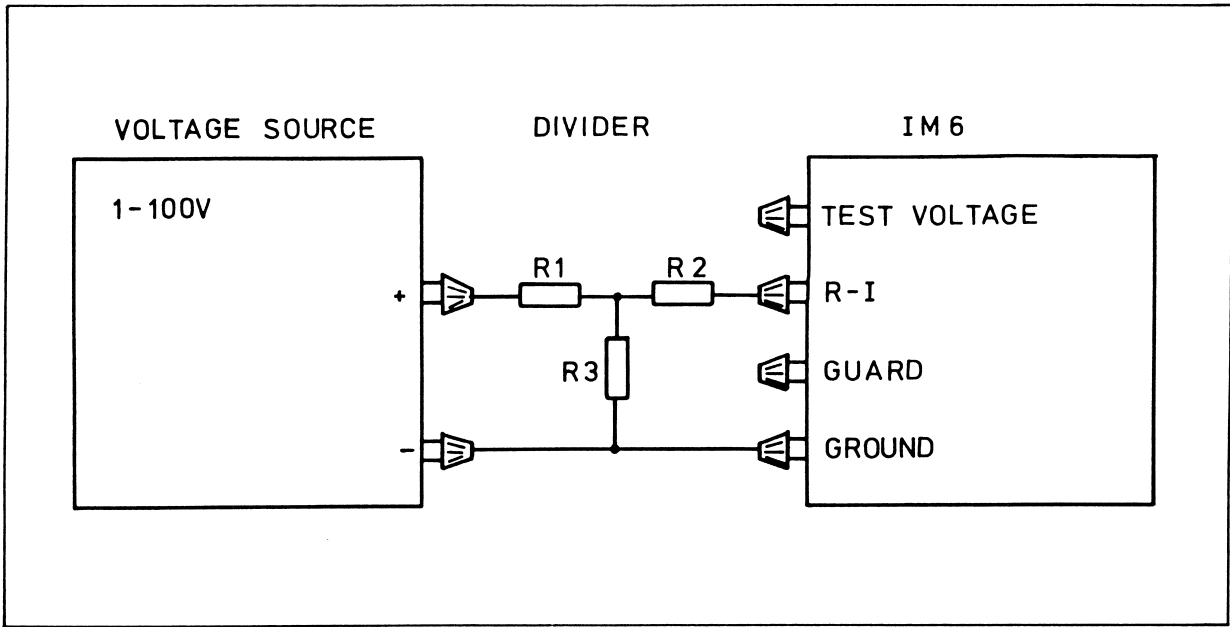

Fig. 4.2 - Set-up for Diode of MULTIPLIER Switch
(See figure 4.2 and the table in step 77).
- 77) Remove the 90 kOhm (90 kOhm - R) resistor, and check the IM6 according to fig. 4.2 and the following table.